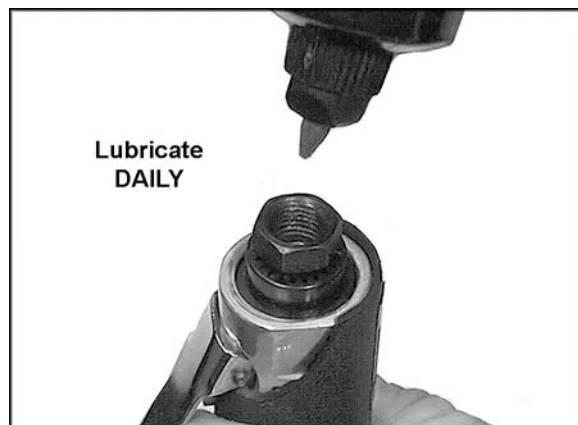

Figure 3
2. Place one or two drops of air tool oil* into the air inlet (Figure 3).